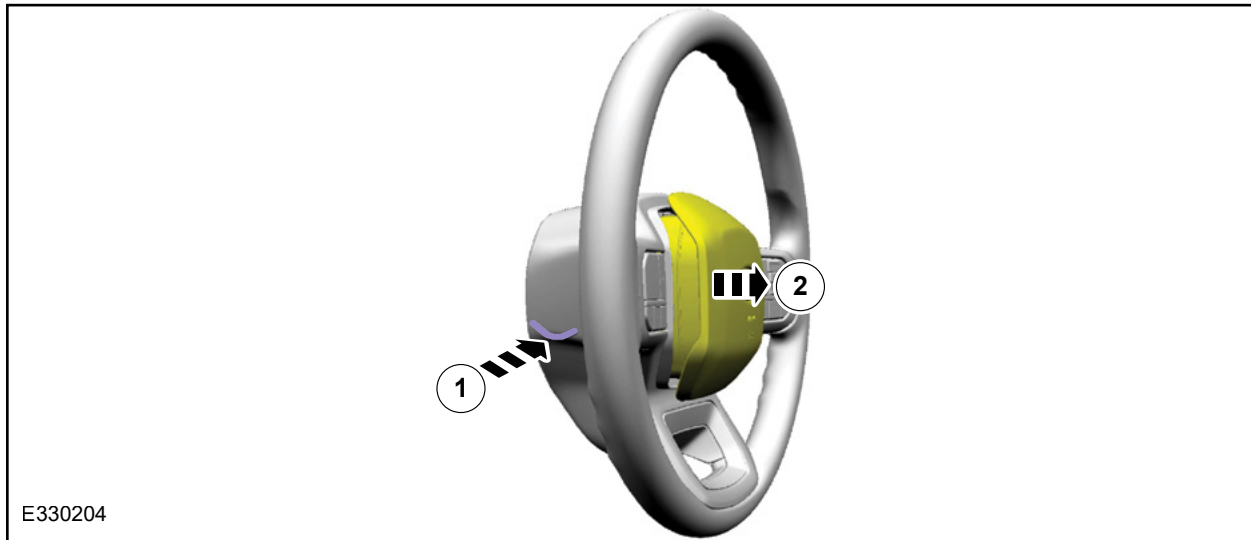

FIGURE 3
1. Push in on the steering wheel spring clip to release the driver airbag retainer. See Figure 3.